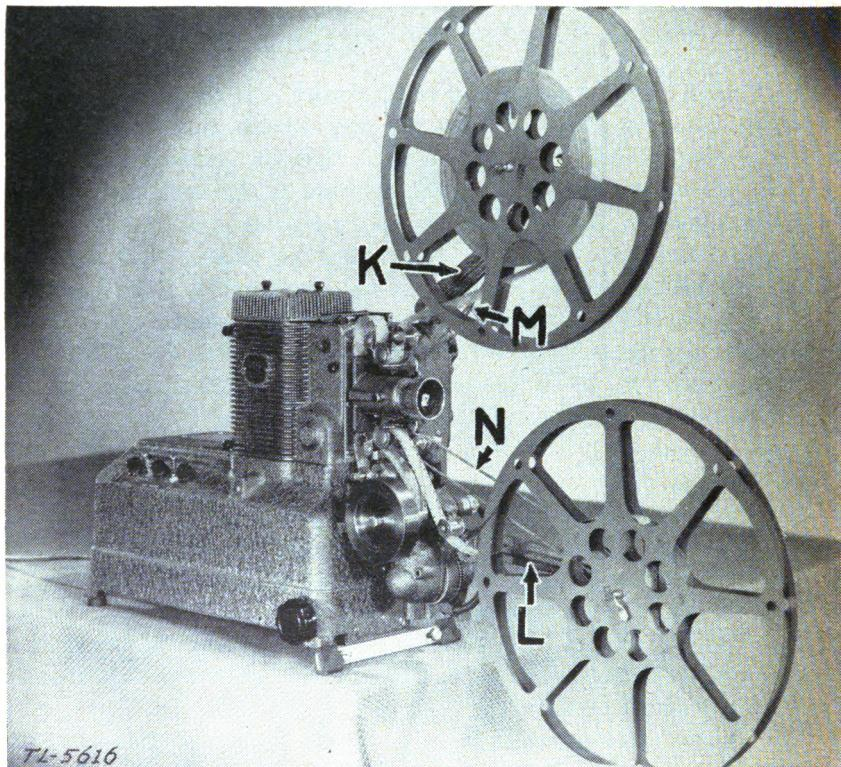

FIGURE 5.—Ampro YA projector ready for operation.
- (1) *Ampro YA* (fig. 5).—*(a)* Remove the projector from the case.